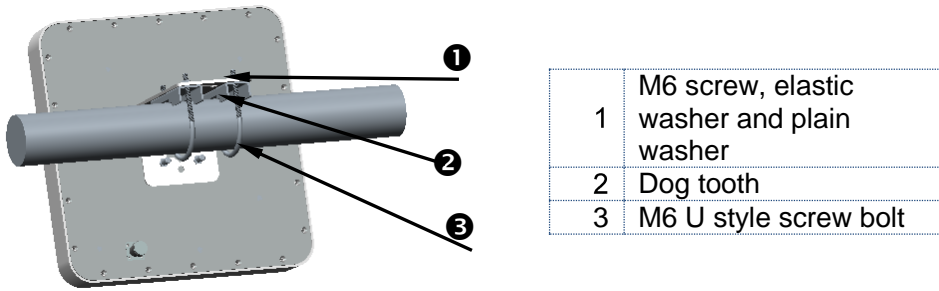

Figure 4. The structure for the Step 2 in the first case
Step 2: Please use M6 screw, elastic washer and plain washer and “Dog tooth” to fix it on the horizontal and vertical bracket, please see Figure 4.